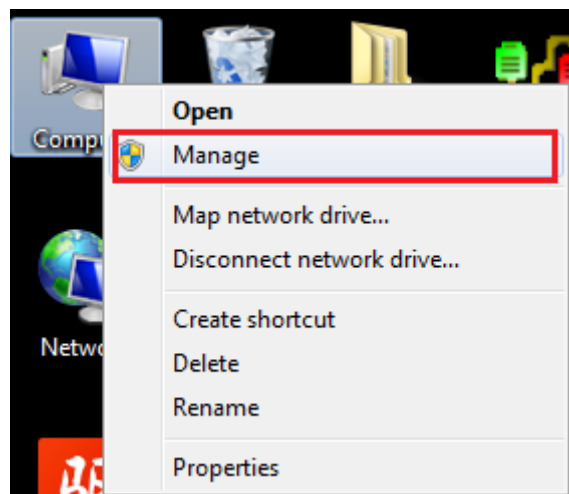

Figure 3-1 Manage Computer
- 1) As shown in Figure 3-1, right click on "Computer" icon, and select "Manage" in menu.